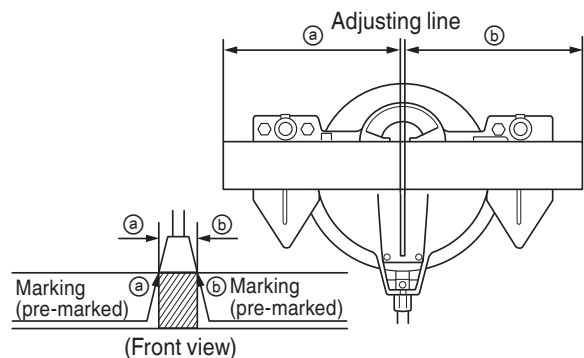

Fig. 16
- (1) As shown in Fig. 16 the width of the saw blade is the width of the cut. Therefore, slide the workpiece to the right (viewed from the operator's position) when length ⑥ is desired, or to the left when length ⑤ is desired.
- (2) Once the saw blade reaches maximum speed, push the handle down carefully until the saw blade approaches the workpiece.
- (3) Once the saw blade contacts the workpiece, push the handle down gradually to cut into the workpiece.
- (4) After cutting the workpiece to the desired depth, turn the power tool OFF and let the saw blade stop completely before raising the handle from the workpiece to return it to the full retract position.